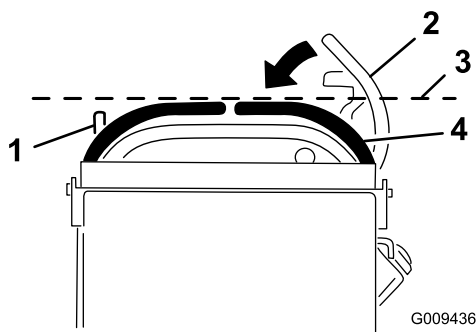

Figure 66
3. Push the right motion control lever down out of locked neutral position (Figure 66).
4. Check if it aligns horizontally with the left motion control lever (Figure 66).